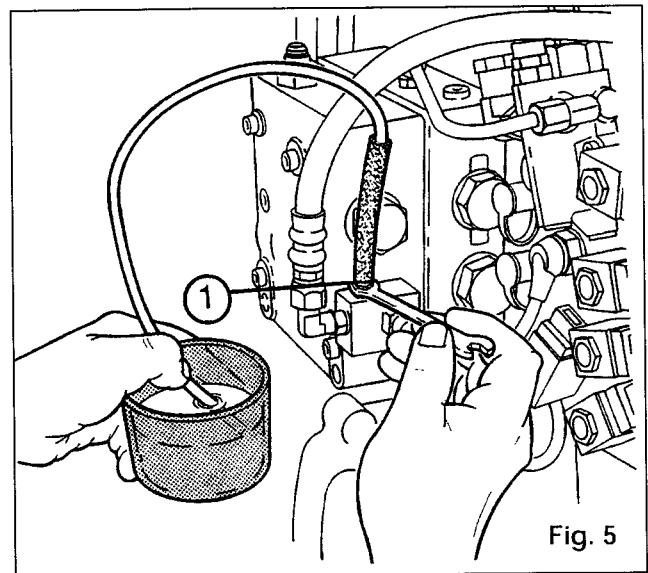

Fig. 5
2. Fit a pipe on the bleed screw (1) as shown in Fig. 5.